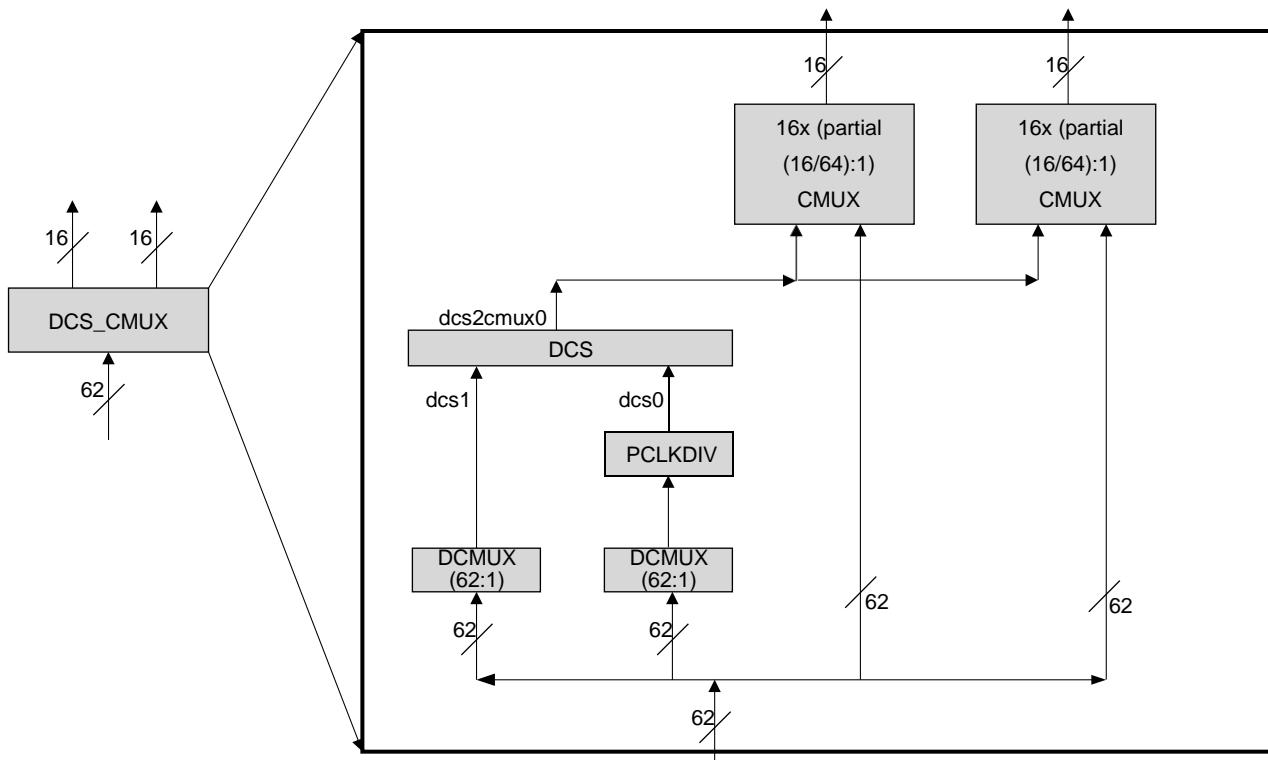

Figure 2.9. DCS_CMUX Diagram
The PCLKDIV supports $\div 2$, $\div 4$, $\div 8$, $\div 16$, $\div 32$, $\div 64$, $\div 128$, and $\div 1$ (bypass) operation. The PCLKDIV is fed from a DCSMUX within the DCS_CMUX block. The clock divider output drives one input of the DCS Dynamic Clock Select within the DSC_CMUX block. The Reset (RST) control signal is asynchronously and forces all outputs to low. The divider output starts at next cycle after the reset is synchronously released. The PCLKDIV is shown in context in Figure 2.9.
All clock sources are selected and combined for primary clock routing through the Dynamic Clock Selector Center Multiplexor logic (DCS_CMUX). There are one (1) or two (2) DCS_CMUX blocks per device. Each DCS_CMUX block contains 2DCSMUX blocks, 1PCLKDIV, 1DCSblock, and 1or2CMUXblocks. See Figure 2.9 for a representative DCS_CMUX block diagram.